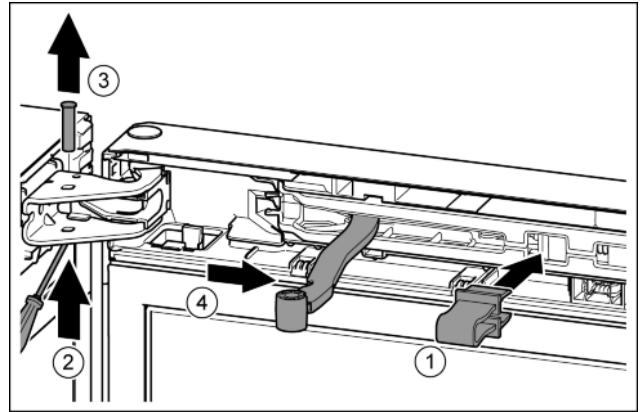

Fig. 9
- Engage the locking device in the opening. Fig. 9 (1)
- Unscrew the bolt with a screwdriver. Fig. 9 (2)
- Remove the bolt in an upward direction. Fig. 9 (3)
- Turn the hinge in the direction of the door. Fig. 9 (4)